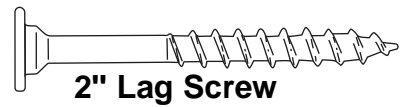

Fig. 19
- 1.** Attach (2) Vertical Support Boards as shown in **(Fig. 19)**.